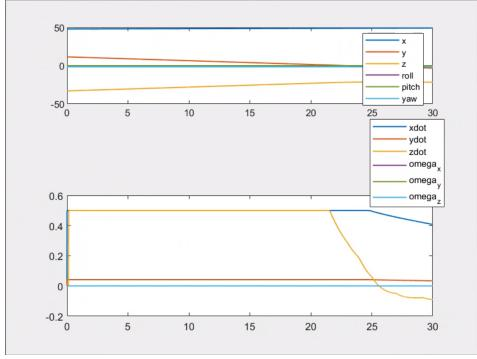

Figure 5: Position and velocities during the Minimum Altitude Vehicle task imposed 10m threshold
- **10 m:** It seems no a reasonable value. The UVMS has initial position below this threshold, so it start floating to the surface very quickly (it is possible to notice this huge vertical velocity in the graph (Figure 5), \dot{z}). Of course, the task is not accomplished because the target position is far from the threshold.